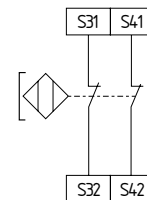

Fig. 6
- Fig. 6: limit switch RHS, partially acting on switch-off level 2 (safety enabling circuits 33-34, 43-44)